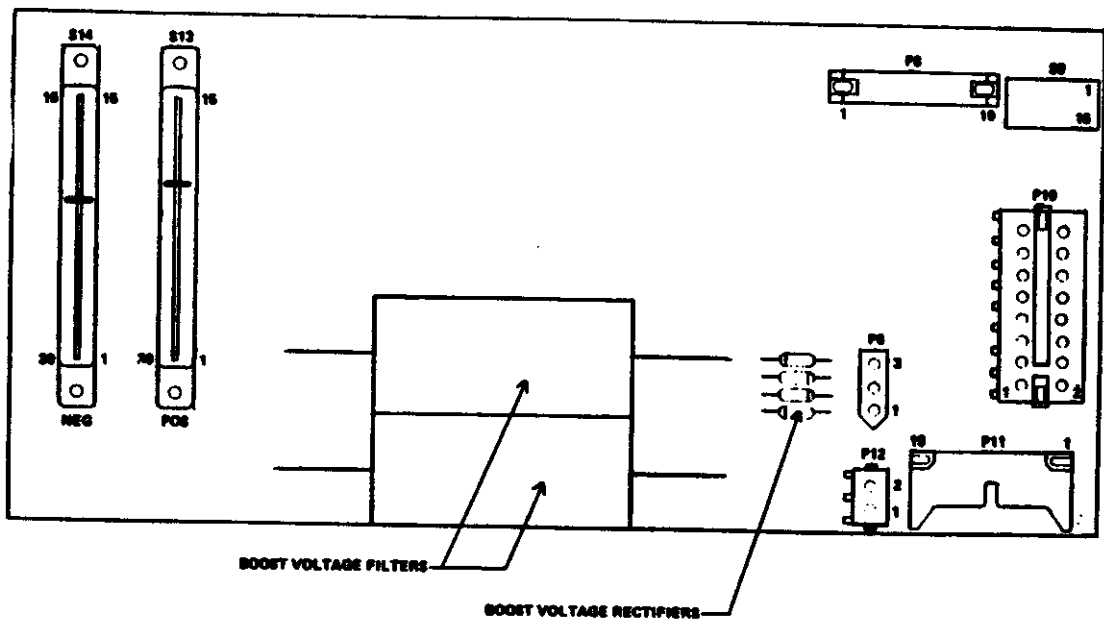

Figure 7 - Regulator Assembly Mother Board
2. Regulator assembly mother board, B438. (Figure 7)
2. Unplug S11 and S12 from regulator assembly mother board (Figure 7).